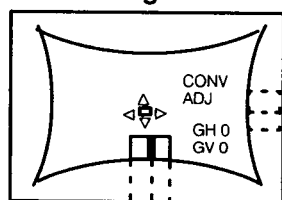

Fig. 54
9. Use the remote controller Left/ Right cursor control "◀▶" to align the center mark "I" in the center area, and press the Cursor center Key "■" as shown in **Fig. 54**